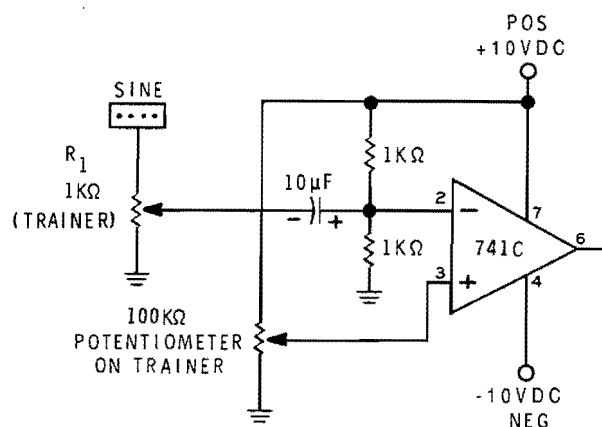

Figure 3-32
27. Turn off the trainer and modify the circuit according to Figure 3-32. Turn on the Trainer.